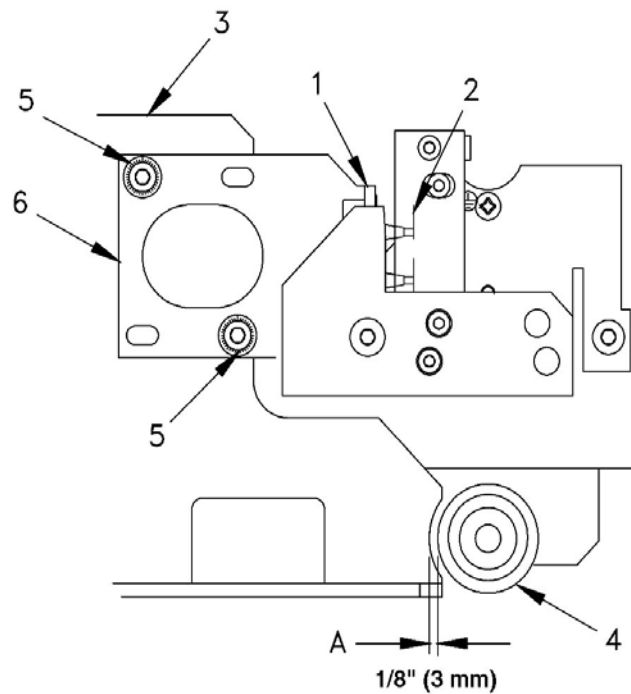

Figure 44 Check Door Contacts
1. When the door lock pins (1) are JUST touching the door contacts (2), verify the measurement 'A' between the door hanger (3) and the bumper (4) is 1/8" (3 mm). See Figure 44.
- a) Loosen the screws (5).
- b) Move the brackets (6).